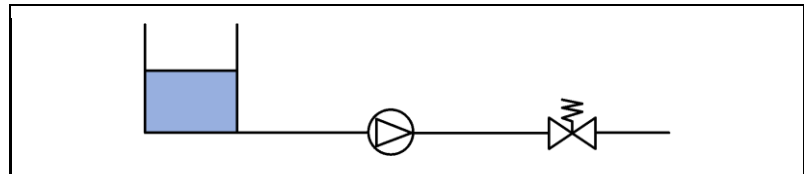

Fig. 22: Volatile media
For precise metering of liquids with a low vapour pressure, such as solvents, the system should be set up as shown in Fig. 22
6. Set up the system as shown in Fig. 22